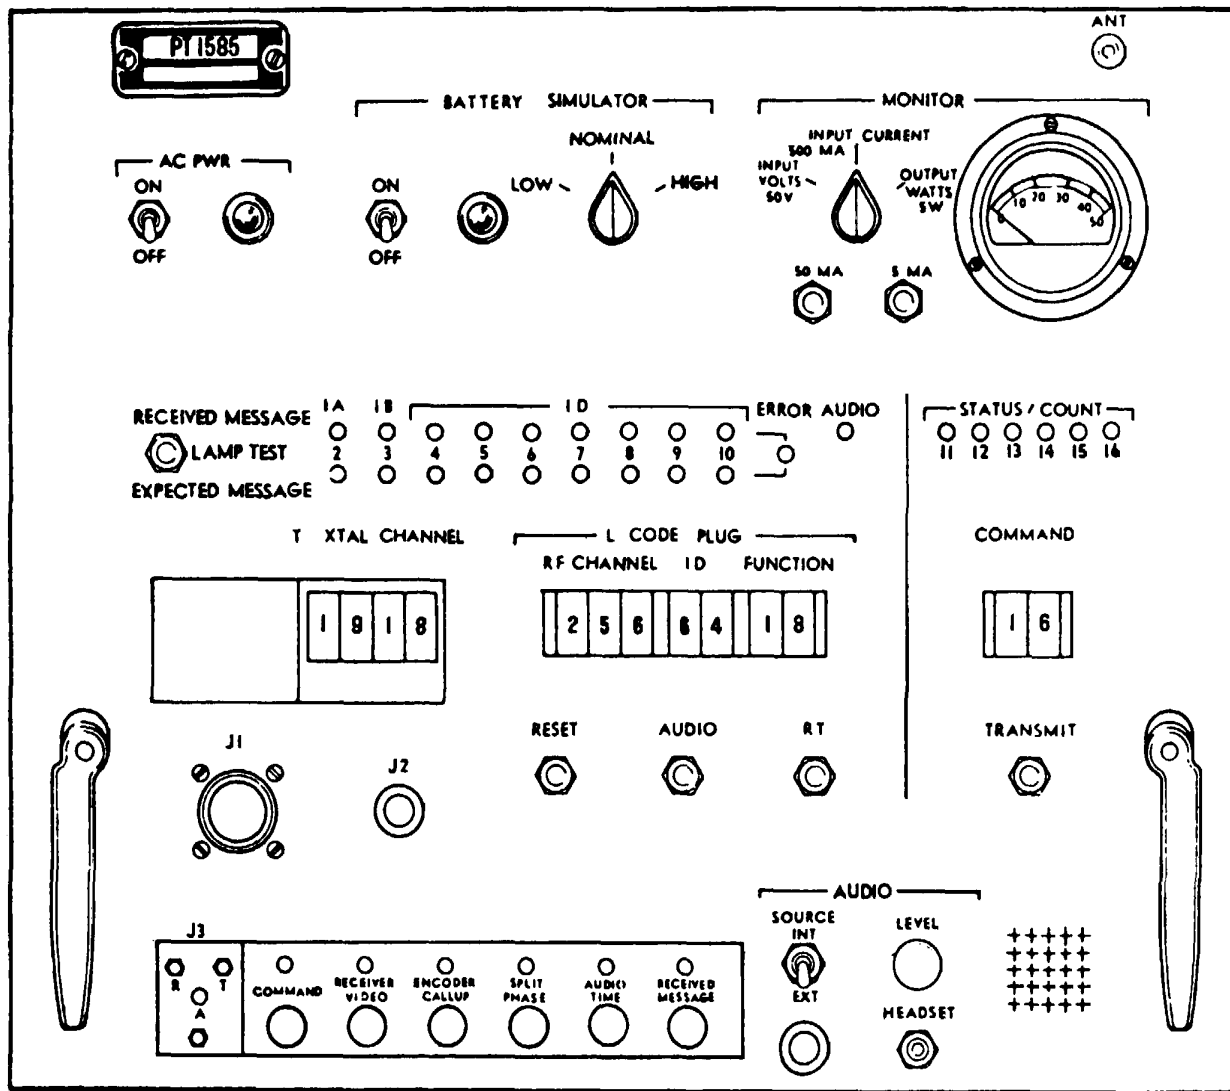

Figure 4-1. PT1585 Panel
**4-3.** The MA31 is a Command Link (CL) sensor containing 9 modules placed in a sensor casing. Normally, eight of the modules are tested as a group (long stack) before final sensor assembly. In some cases, partial module stacks of less than 8 modules may be tested.
1. If an incorrect indication is displayed on the PT1585 (figure 4-1), verify that the stack has been assembled correctly and that the PT1585 switches have been correctly set. If the module stack is correctly assembled and the switches are correctly set, and indications are still incorrect, perform procedures a through g described
a. Enter first seven numbers of code printed on tape on the L module into L CODE PLUG switches on PT1585 panel (figure 4-1).